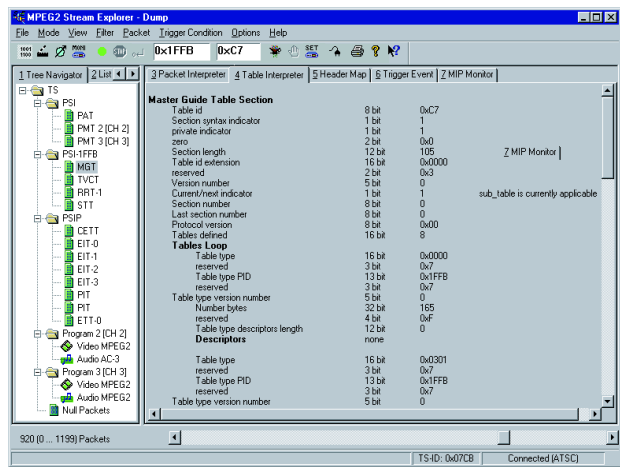

Fig. 2: Real representation of transport stream structure with Tree Navigator and of Table Interpreter (ATSC mode)
- TS NAVIGATOR: Display of transport stream contents as a tree structure (Fig. 2, left) or in tabular form (Fig. 1, left) with general information about elementary streams such as PID,
- TABLE INTERPRETER: (Fig. 2, right) Lists all elements of a selected table and interprets the contents. The following tables can be selected: